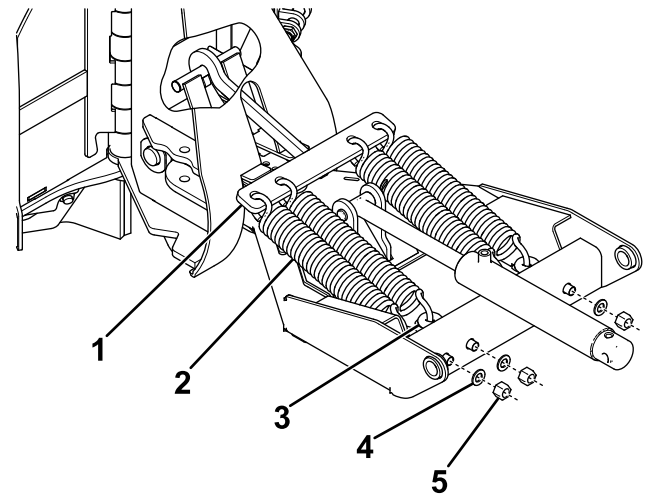

Figure 8
- Hook the spring yoke to the cross rod inside the blade center (Figure 8).
- Hook the 4 trip springs through the holes in the spring yoke (Figure 8).
- Hook the other ends of the trip springs to 4 eyebolts (Figure 8).
- Insert the threaded end of the eyebolts through the holes on the pushframe and secure them using 4 washers (5/8 inch) and 4 top nuts (Figure 8).
- 3. Tighten the top nuts for the 4 trip springs until there is a gap of 0.8 mm (1/32 inch) between the coils (Figure 8).